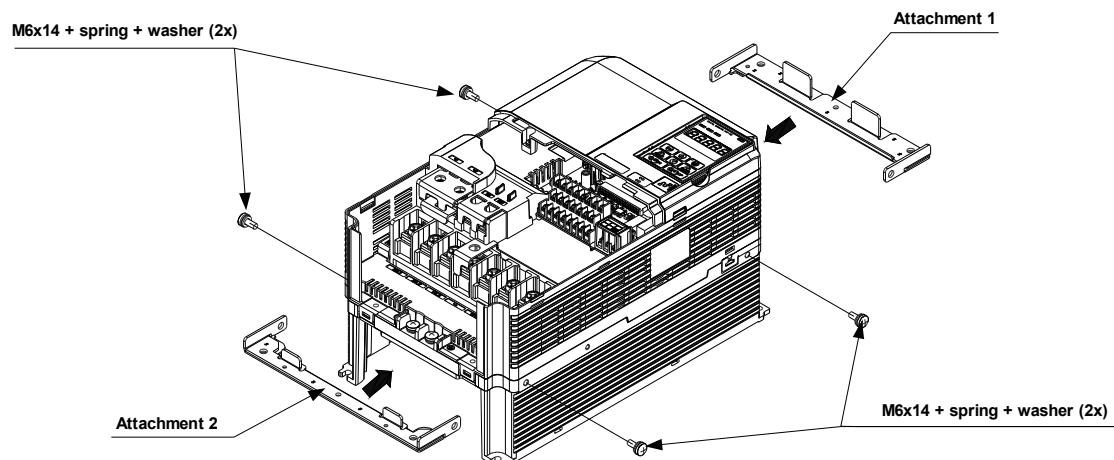

Figure 7: Step 2 - 2A0081
2. Fix *Attachment 1* to the top and *Attachment 2* to the bottom of the inverter. Use the holes at the side of the device and screws M6x14 with spring and washer like shown in Figure 7.